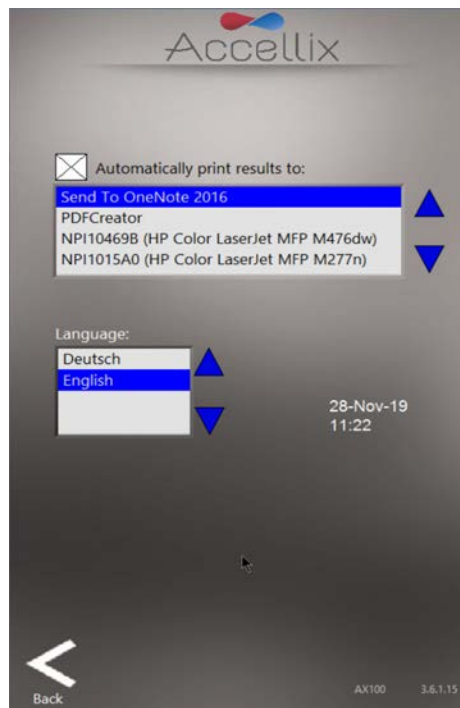

Figure 15: Settings screen
3. Tap the **Settings**  icon at the bottom right of the **Home** screen to access the **Settings** screen (Figure 15).